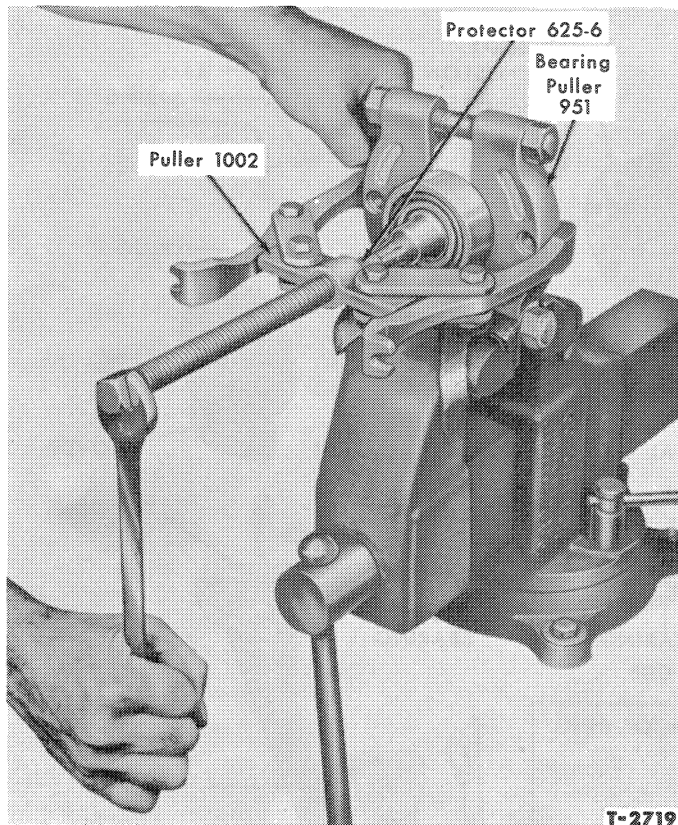

Figure 23—Removing Shaft Bearing
8. If the shaft bearing is defective, remove it with a bearing puller as shown in Figure 23.